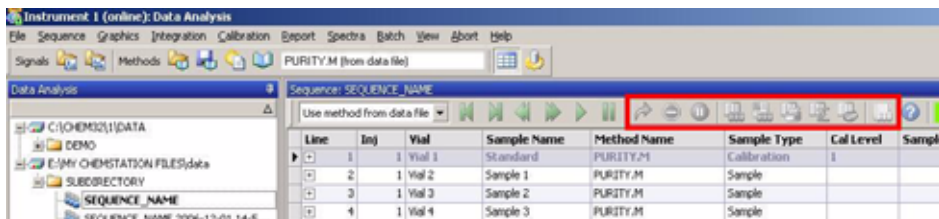
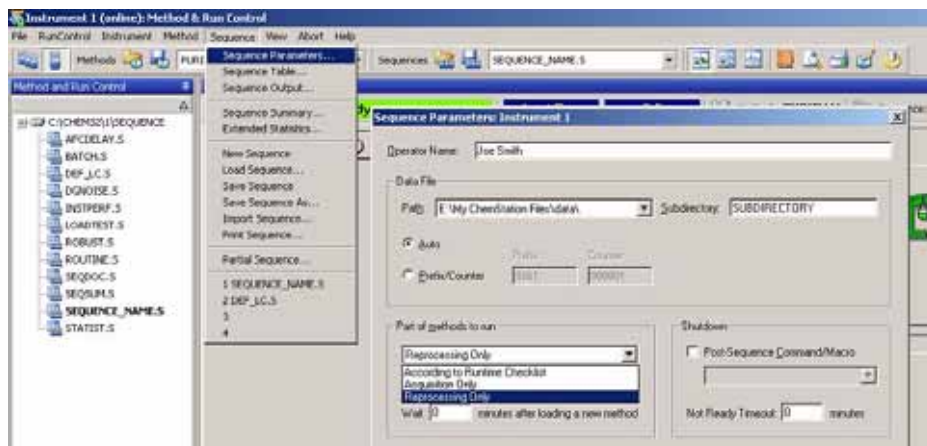

Figure 22 Navigation Table for Sequences acquired with Unique Folder Creation switched off
Figure 23 Reprocessing of sequence data acquired with “Unique Folder Creation” off
- When a sequence is loaded into the Navigation Table, the reprocessing toolset is grayed out (Figure 22). Sequences that have been acquired in this data storage mode can only be reprocessed in Method and Run Control view using the “Reprocessing only” option in the Sequence Parameters (Figure 23).